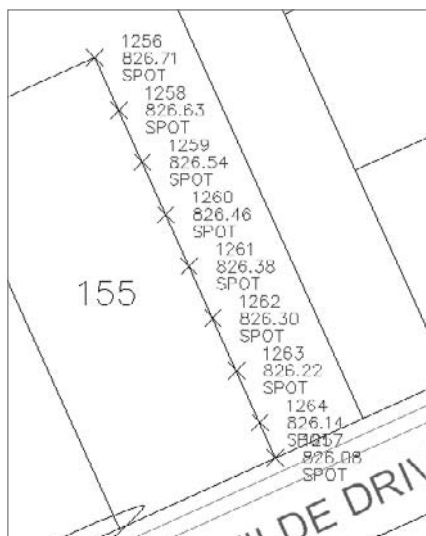

Figure A.22
10. At the Specify an offset <0.000>: prompt, press ↵ to accept the offset. Points will appear every 10' along the lot line with elevations calculated from the start point and endpoint elevations, as shown in Figure A.22. Press ↵ to exit the command.